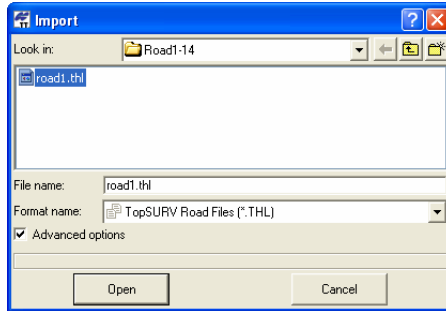

Figure 3-29. Import Road File
- Click **Open** to import the file (Figure 3-29).